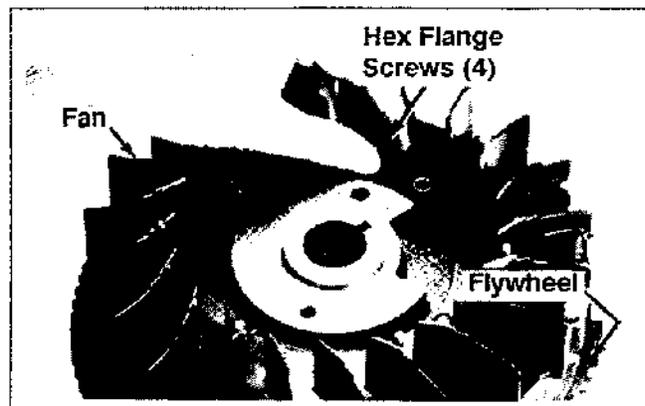

Figure 9-31. Removing Fan From Flywheel.
4. Remove the four hex flange screws and fan from flywheel. See Figure 9-31.